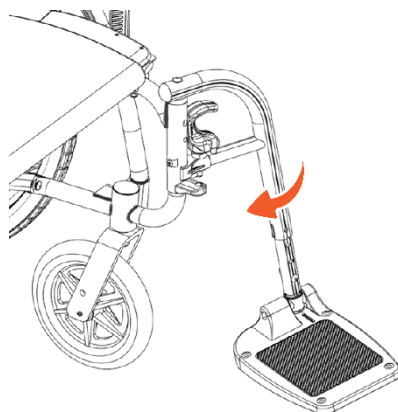

Figure 4.14
2. Push the swing-away footrest toward the inside of the wheelchair until it clicks into place. (See Figure 4.14–4.15.)